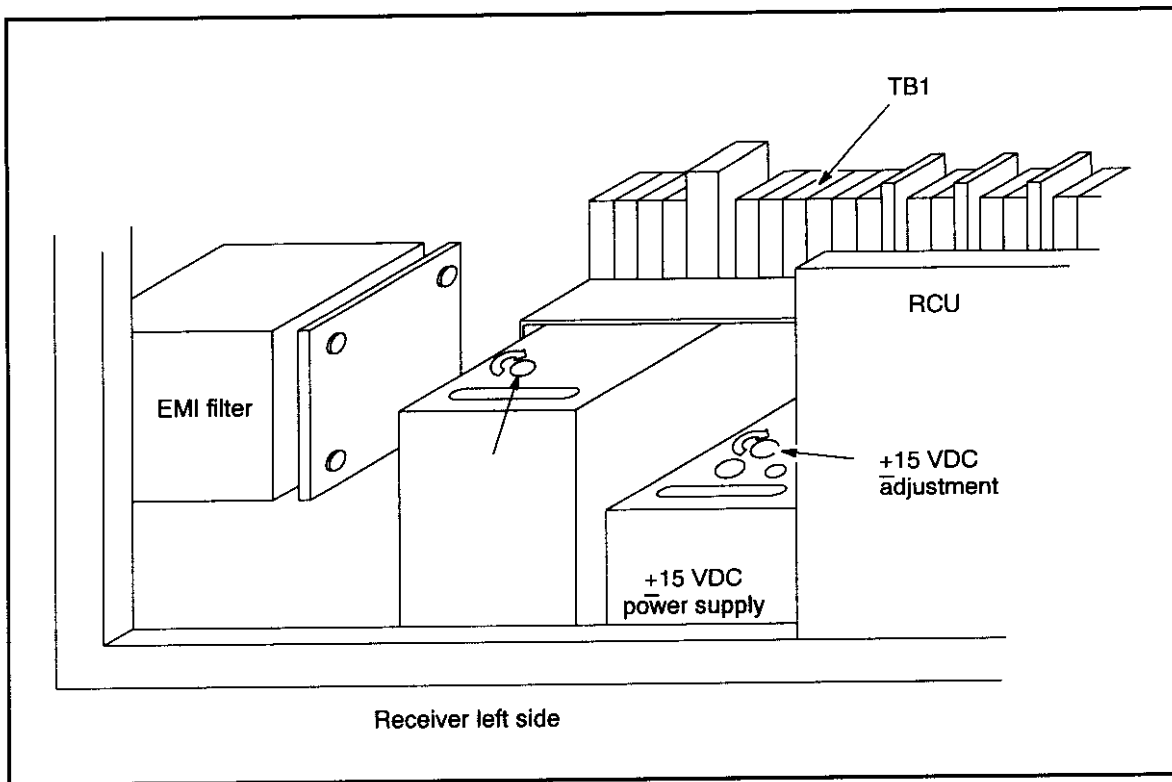

Figure 40. Receiver Power Supplies.
- If necessary to adjust the output level, use Figure 40 to locate the voltage adjustment points.